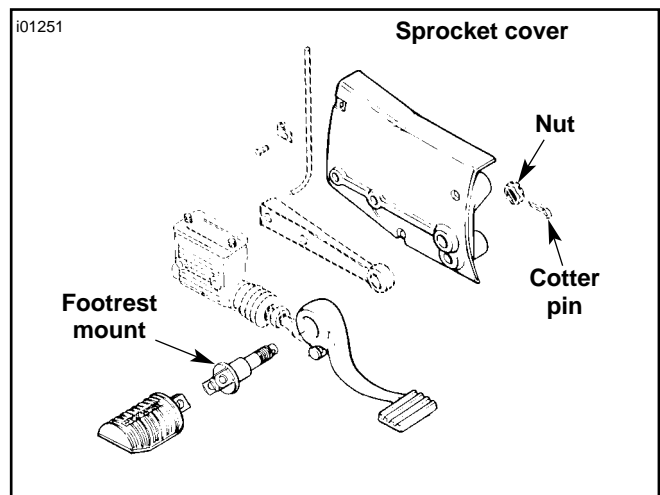

Figure 2. Brake Side Footrest Mounting (original equipment)
5. See Figure 2. Remove the cotter pin and nut that holds the footrest mount in place. Replace the footrest mount with sockethead capscrew (3) from kit and reinstall the nut removed from the footpeg. Save footrest for reinstallation.